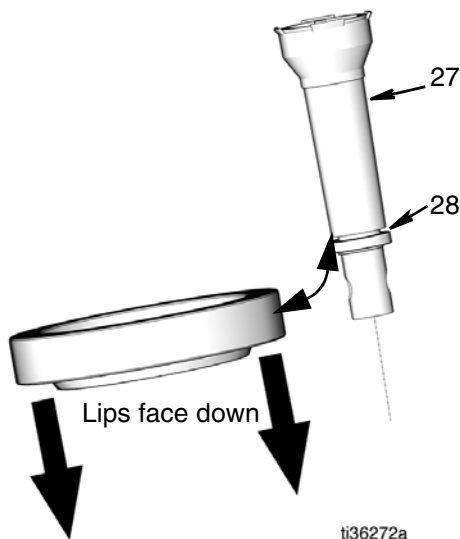

FIG. 33
7. Install seal (28) onto trip rod (27) See FIG. 33.